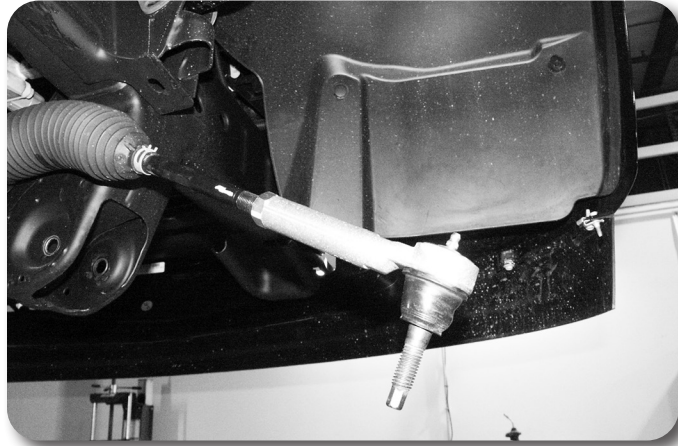
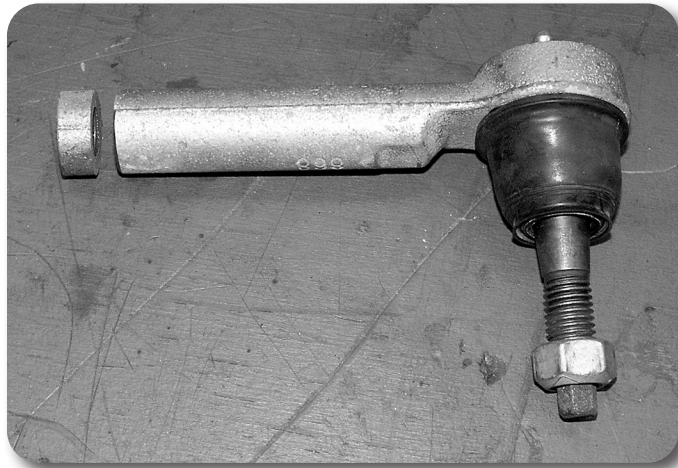

Figure 28A
Figure 28B
55. Working on one side at a time, remove the tie rod end from the steering link **Figure 28A**. Trim 1/2" off of both the tie rod end and the steering link **Figure 28B,C**. This will allow for proper alignment adjustment once the kit is